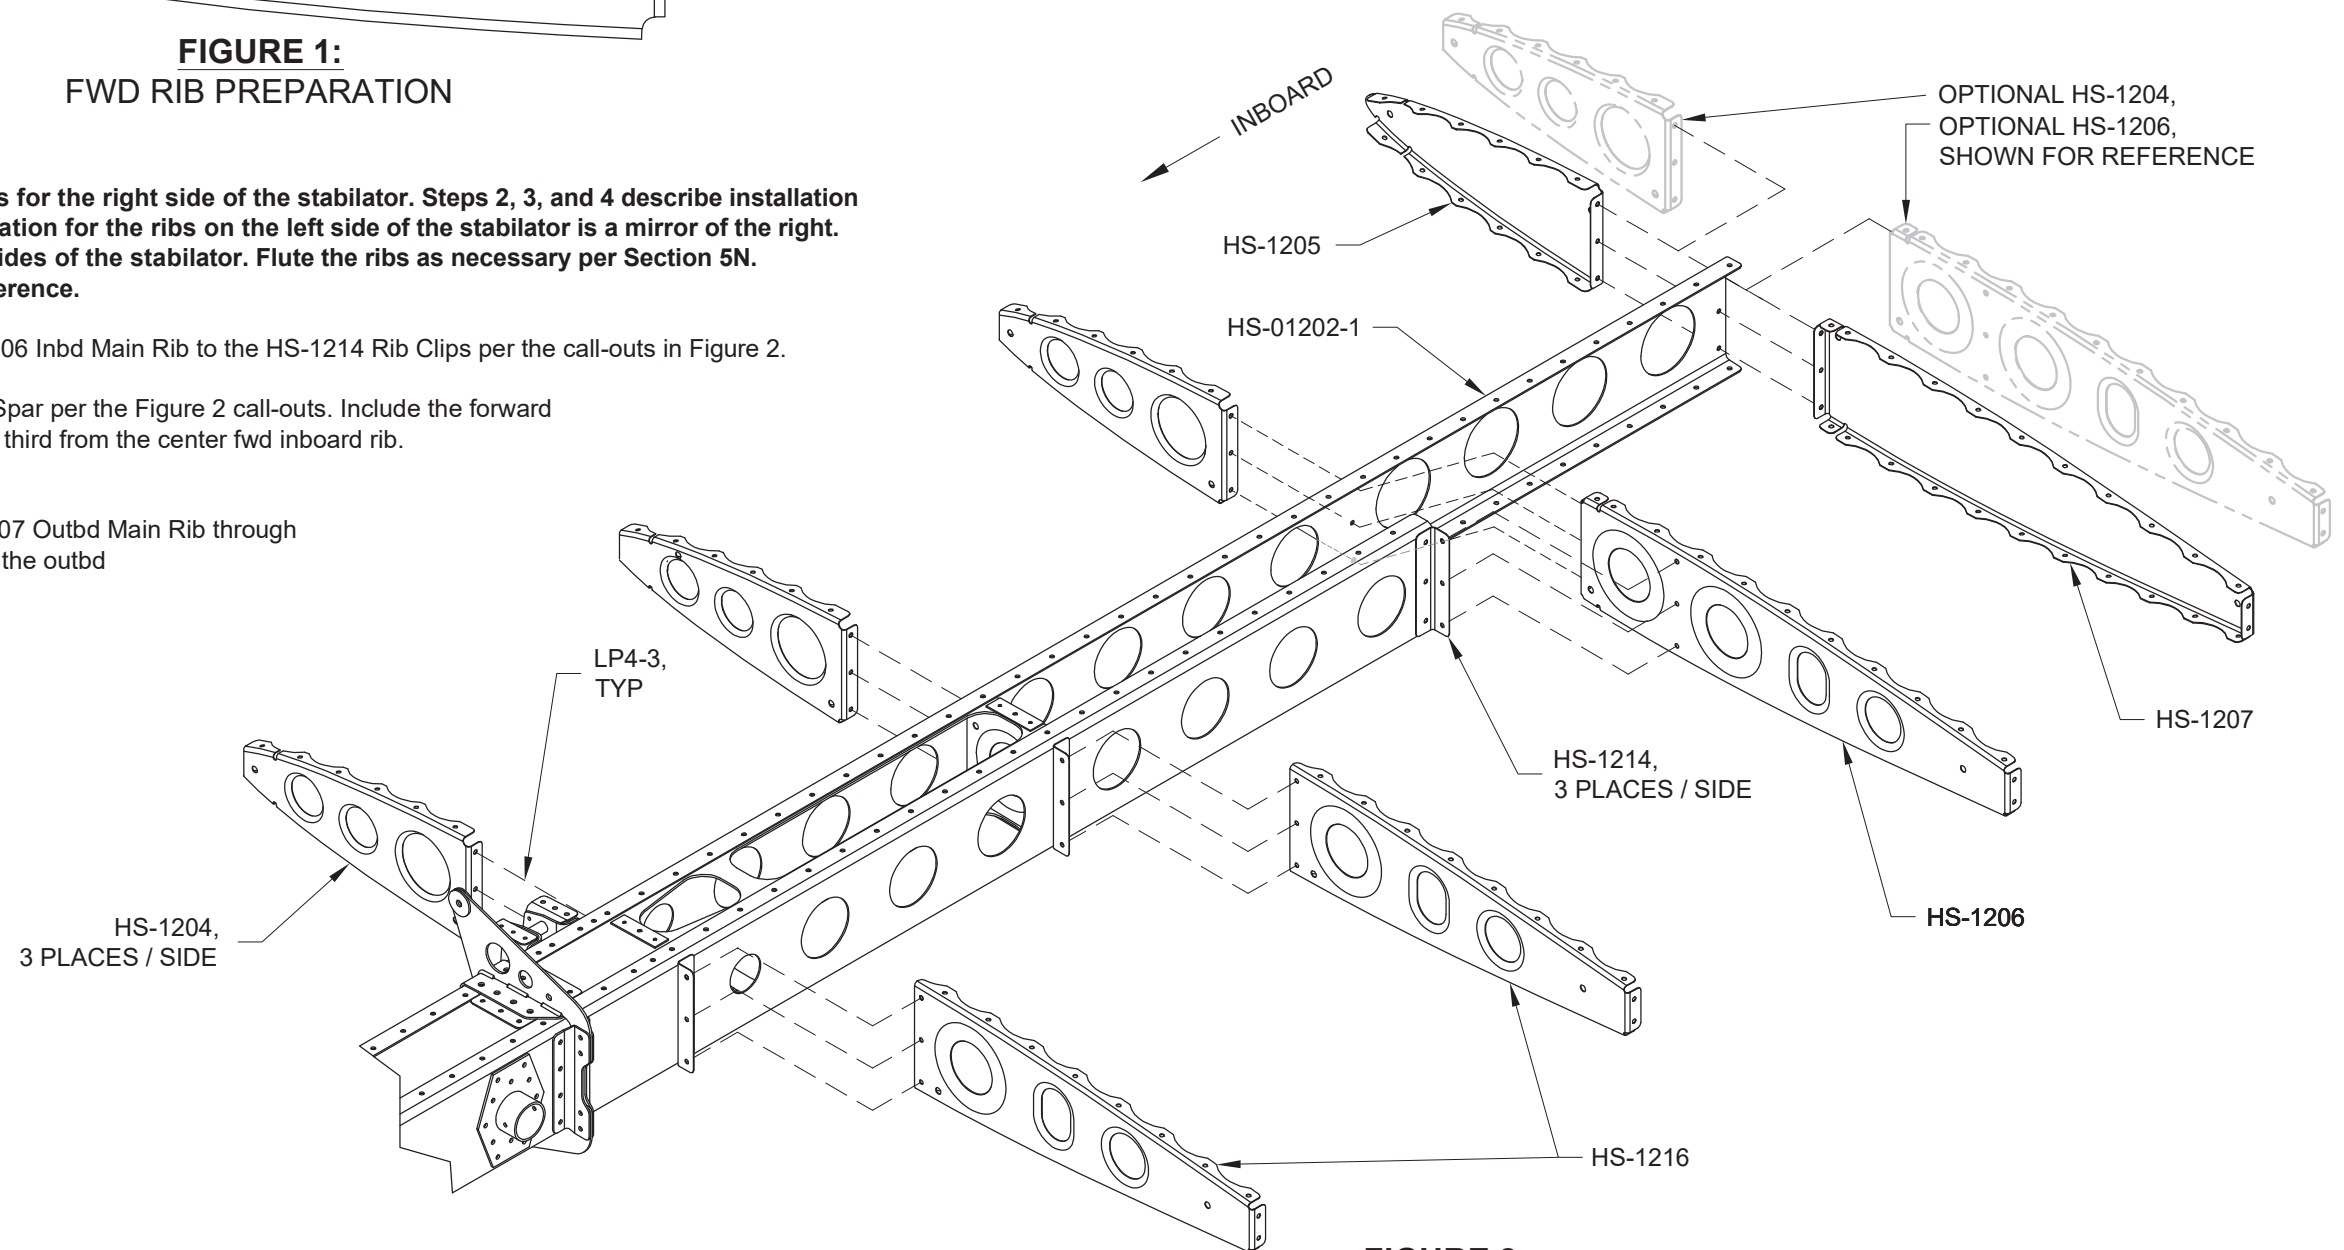

FIGURE 2:
Step 4: Rivet the HS-1205 Fwd Outbd Rib to the HS-1207 Outbd Main Rib through the fwd spar. Orient the flanges of the fwd outbd rib and the outbd main rib so that they point inboard as shown in Figure 2.